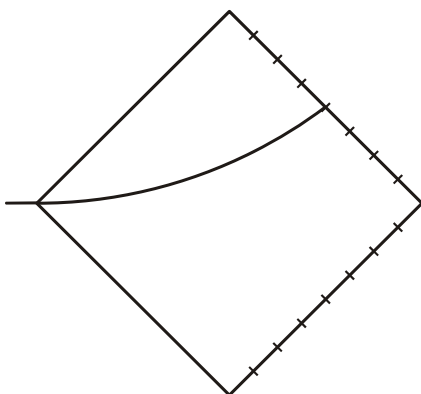

Fig. 3: Deflection of electron beam so that it passes through the centre of the scale at the edge of the screen
- Gradually increase the current through Helmholtz coils ( $2 I_H$ ) until the electron beam passes out through the centre of the scale (see Fig. 3).